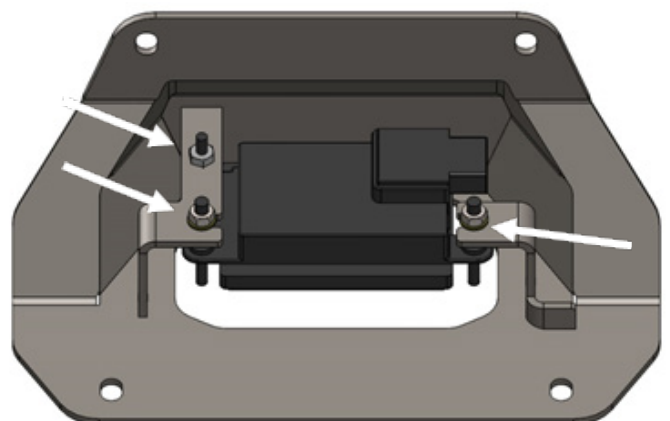

Figure 3
3. Install the large sensor by placing the sensor into the bracket and screwing in the top bolt into the weld-nut. Use the provided M8 hardware to fasten the lower two bolts (50244-HW). NOTE: Once the lower two bolts are secure make sure the sensor is parallel to the front face by adjusting the upper bolt in the weld-nut. (Figure 3)